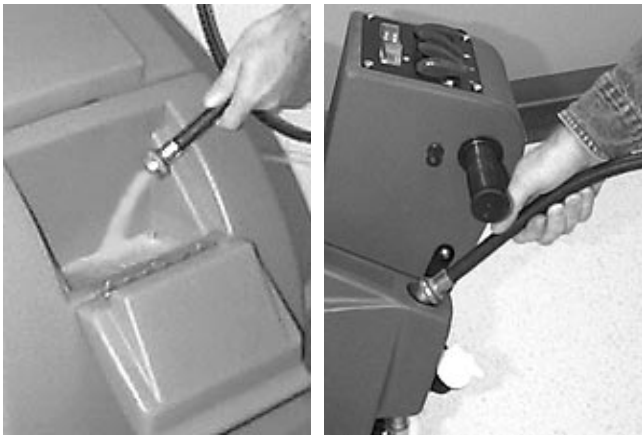

FIG. 4
3. Open solution fill door at front of machine and fill solution tank with 64 L (17 gal) of clean water, 60°C (140°F) maximum temperature. Or you can use the rear fill port to fill solution tank. Twist off plug and insert hose to fill. The clear tube below the fill port has 19 L (5 gal) increment markers to indicate amount of water in tank (Figure 4).